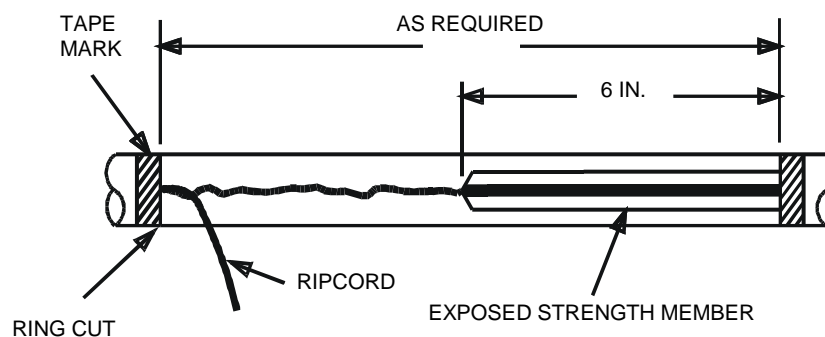

Figure 6 - Remove the outer cable jacket.
1. Consult the closure documentation to determine the length of cable jacket that must be removed for mid-span splicing. Place tape marks on the cable indicating the section of cable jacket that will be removed (Figure 6).
2. Use a knife to ring-cut the outer jacket at both tape marks (Figure 6).
3. At one tape mark, shave off about 6 inches of the outer jacket to expose the strength members and ripcords (Figure 6).
4. Cut the exposed ripcords at the tape mark and pull each ripcord through the outer jacket to the opposite tape mark (Figure 6)